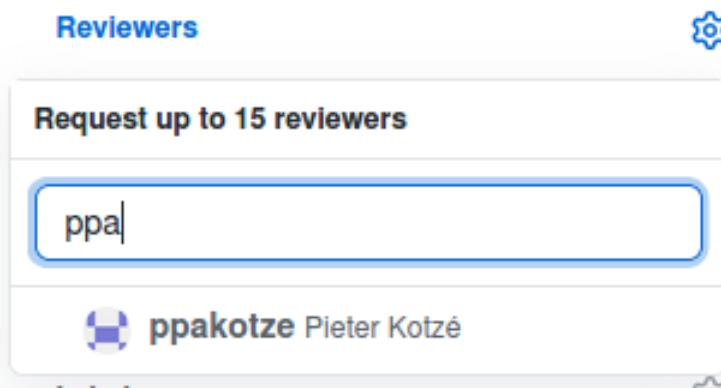

Figure 12.8: Github add pull request reviewers
- At the right hand side at the top next to “Reviewers”, click on the gear icon. It will drop down a list of reviewers to choose from. Type “ppakotze” in the search field (see **Figure 12.8**) to find Pieter K and then click on Pieter K to request him to approve your pull request (It will show a check mark next to his name, and then under “Reviewers” you will see a yellow dot next to his name).